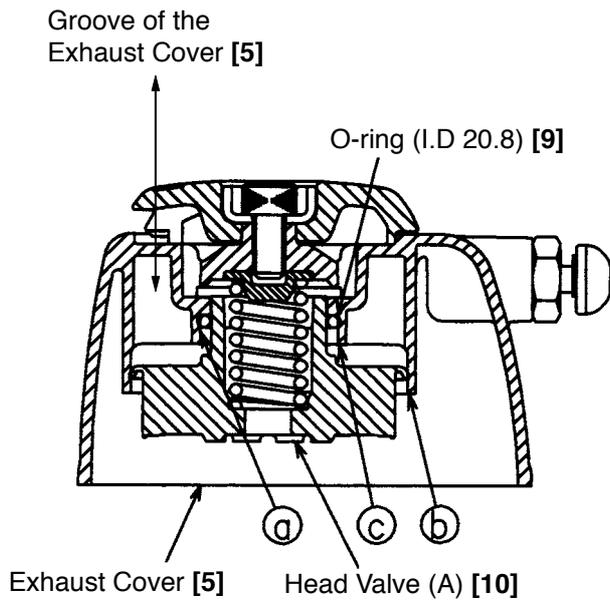

Fig. 12
- Apply grease to the sliding surface (a) of the Exhaust Cover [5] and Head Valve (A) [10] and charge about 0.5 g (.018 oz) of grease in the groove of the Exhaust Cover [5] (Fig. 12).
- Apply grease to the lip portions (b) and (c) of Head Valve (A) [10] (Fig. 12).